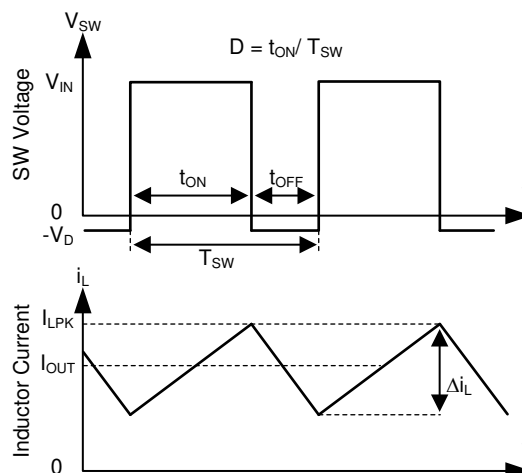

Figure 10-2. SW Node and Inductor Current Waveforms in Continuous Conduction Mode (CCM)
The following operating description of the TPS2586x-Q1 refers to the Functional Block Diagram. The TPS2586x-Q1 integrates a monolithic, synchronous, rectified, step-down, switch-mode converter with internal power MOSFETs and USB current-limit switches with charging ports auto-detection. The TPS2586x-Q1 offers a compact and high efficiency solution with excellent load and line regulation over a wide input supply range. The TPS2586x-Q1 supplies a regulated output voltage by turning on the high-side (HS) and low-side (LS) NMOS switches with controlled duty cycle. During high-side switch ON time, the SW pin voltage swings up to approximately V_{IN} . The inductor current i_L increases with linear slope $(V_{IN} - V_{OUT}) / L$. When the HS switch is turned off by the control logic, the LS switch is turned on after an anti-shoot-through dead time. Inductor current discharges through the LS switch with a slope of $-V_{OUT} / L$. The control parameter of a buck converter is defined as Duty Cycle $D = t_{ON} / T_{SW}$, where t_{ON} is the high-side switch ON time and T_{SW} is the switching period, shown in Figure 10-2. The regulator control loop maintains a constant output voltage by adjusting the duty cycle D . In an ideal buck converter, where losses are ignored, D is proportional to the output voltage and inversely proportional to the input voltage: $D = V_{OUT} / V_{IN}$.